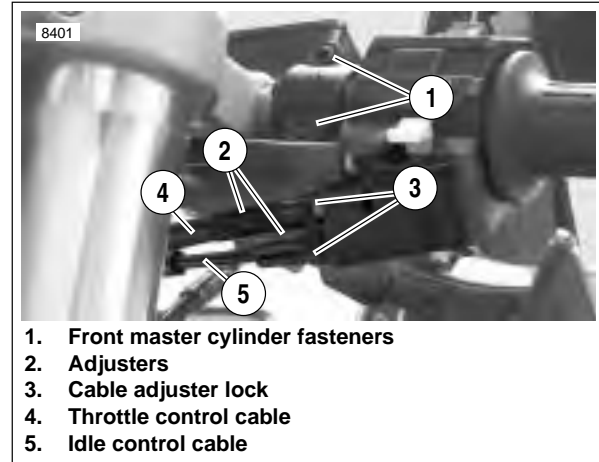
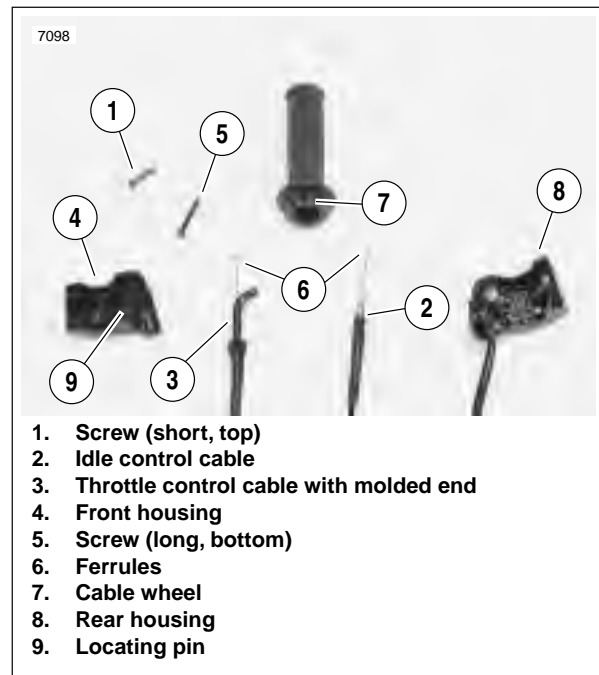

Figure 2-91. Throttle Control Cables
Figure 2-92. Cable Connections
1. See Figure 2-91. Loosen cable adjuster lock (thick disc) (3) on each cable.
2. Turn adjusters (thin disc) (2) in direction which will shorten cable housings to minimum length.
3. Remove fasteners (1) on right switch housing and separate housing from handlebar.
4. See Figure 2-92. Remove cables (2, 3) from notches in front housing (4).
5. Remove ferrules (6) from throttle (7).
3. Install throttle grip and position ferrules (6) into cable wheel (7).
7. See Figure 2-91. Attach rear switch housing and position housings on right handlebar by engaging locating pin on front housing with hole in handlebar. Attach housings with two fasteners, installing longer fastener on bottom. Tighten to 25-33 in-lbs (3-4 Nm).